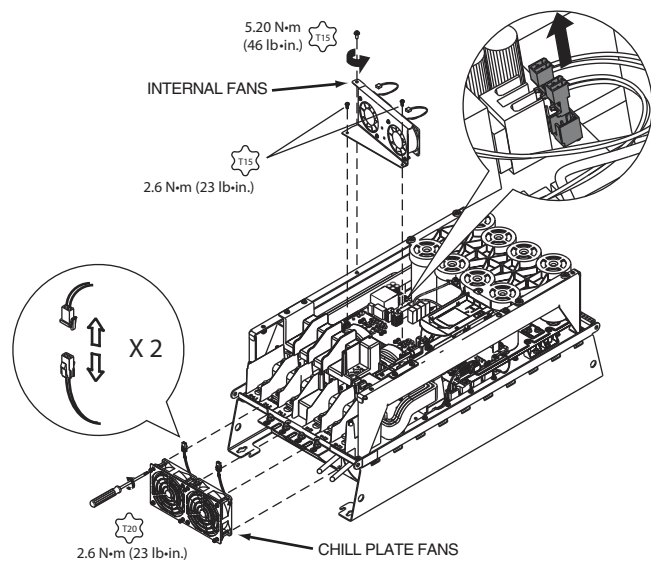

Fig. 30 — Chill Plate and Internal Fans, Removal and Replacement, Frame 7
4. Remove and replace the chill plate and internal fans. See Fig. 30.